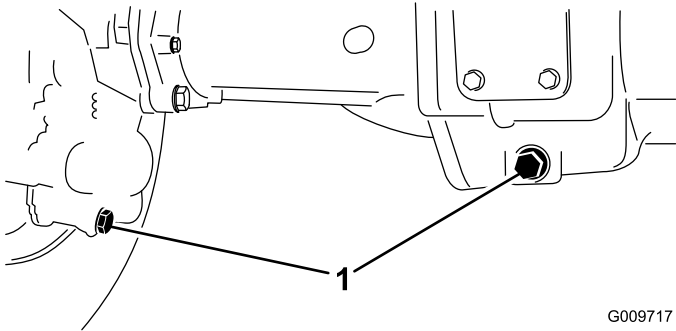

Figure 66
2. Clean the area around the 3 drain plugs, 1 on each end and 1 in the center (Figure 66).